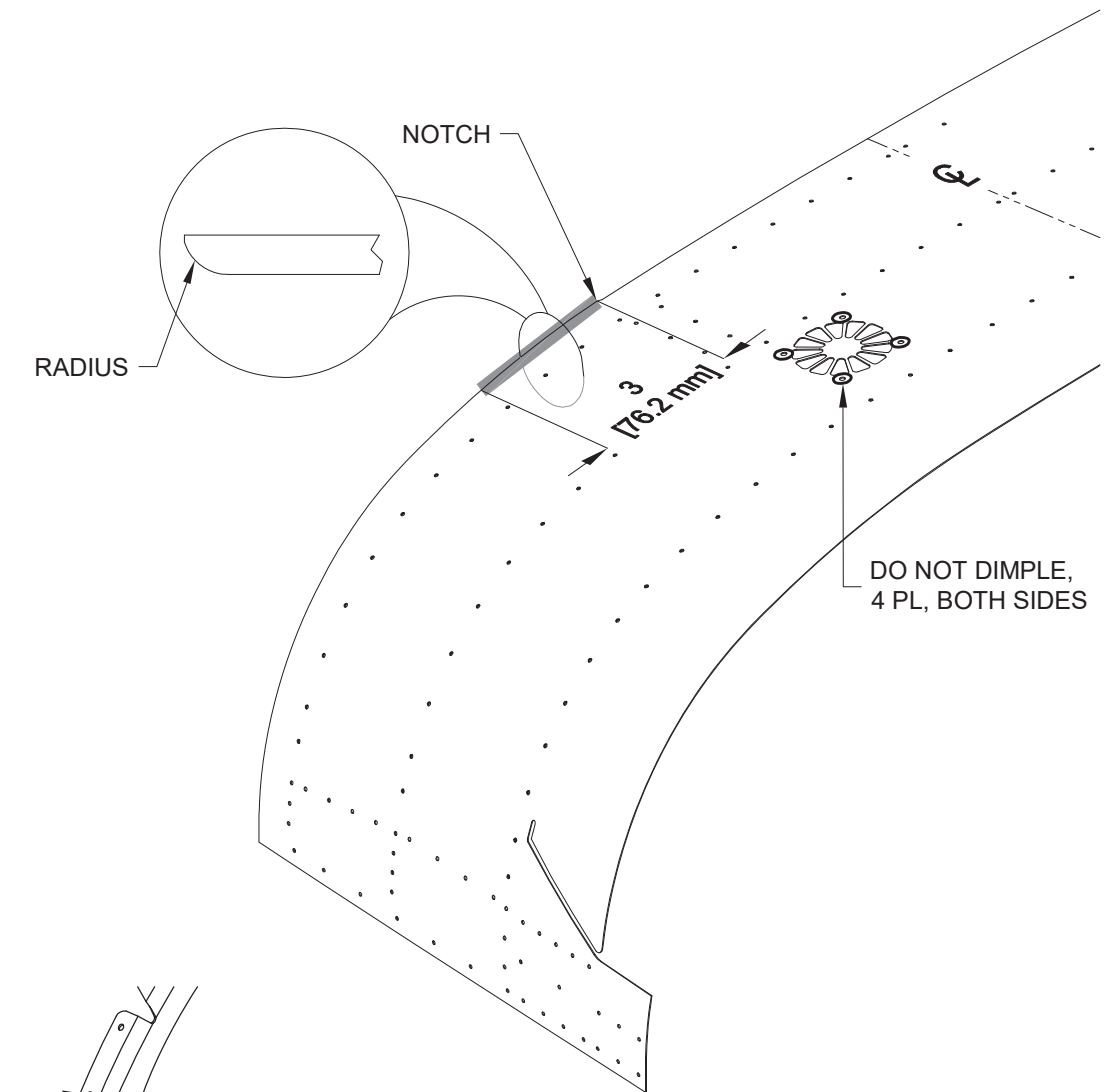

FIGURE 5: CANOPY SKIN
Step 5: Dimple the remaining, un-dimpled holes in the C-01418 Canopy Skin, except as indicated in Figure 5.
Step 6: File and sand a radius into the underside of the forward outboard edges of the C-01418 Canopy Skin as shown in Figure 5. This will help the canopy skin to mate properly when the canopy is closed.